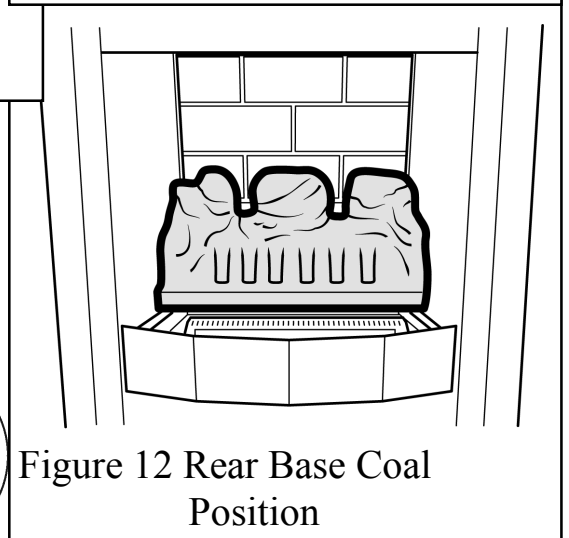

Figure 12 Rear Base Coal Position
3. Place the rear base coal in the firebox. It should rest on the ledges at the sides and back of the firebox and its rear face should touch the rear ceramic wall. See figure 12.